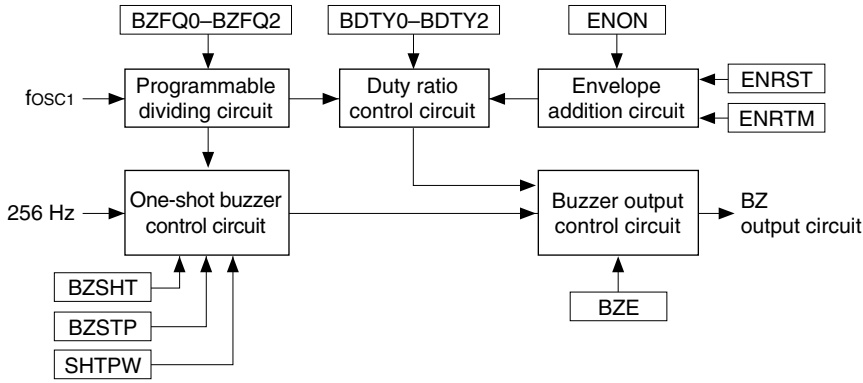

Fig. 4.12.1.1 Configuration of sound generator
The S1C63466 has a built-in sound generator for generating buzzer signals. Hence, generated buzzer signals (BZ) can be output from the BZ terminal. Aside permitting the respective setting of the buzzer signal frequency and sound level to 8 stages, it permits the adding of a digital envelope by means of duty ratio control. It also has a one-shot output function for outputting key operated sounds. Figure 4.12.1.1 shows the configuration of the sound generator.